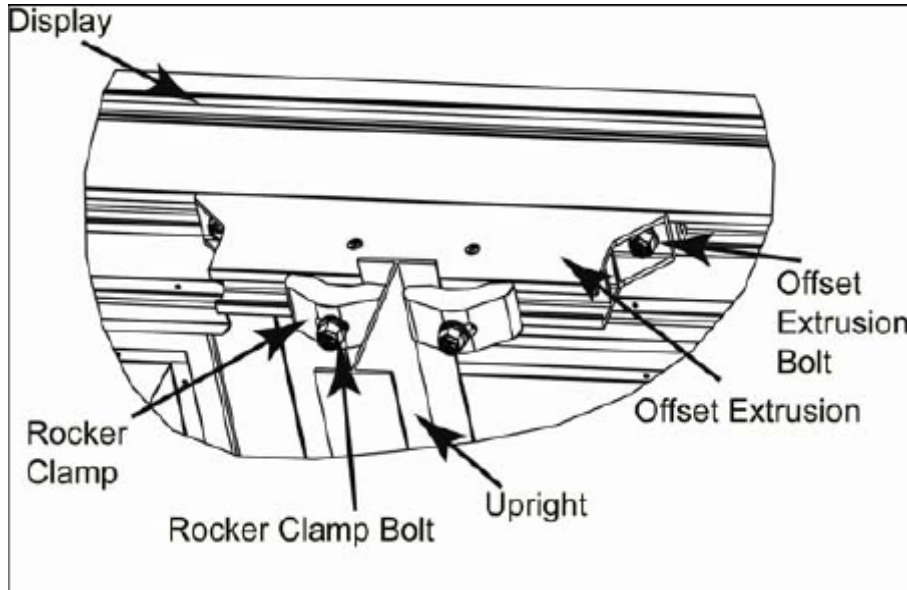

Figure 8: Mounting Assembly
50. Align the Offset Extrusion with the Uprights. Refer to **Figure 8**.
52. On each end of the display, slide the pre-assembled Offset Extrusion and the Rocker Clamps over until they engage the Upright flanges. Refer to **Figure 8**.
54. Slide the right side Rocker Mount in the end of the Intermediate Extrusion. Refer to **Figure 8**.